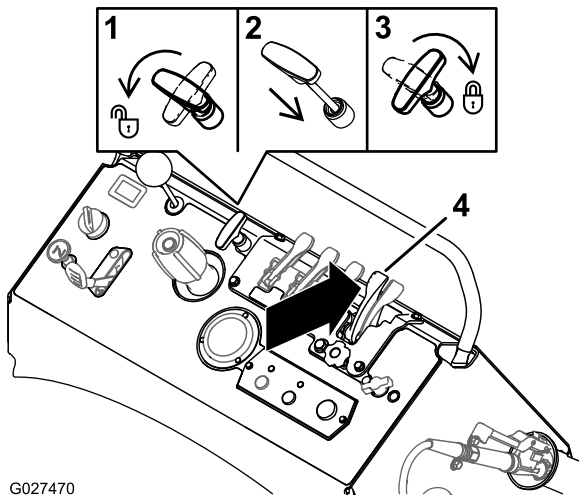

Figure 82
3. Close the impeller gate by pushing the wide-distribution impeller gate lever forward fully (Figure 82).
4. Rotate the spread pattern control handle counterclockwise (1), push the handle down (2), and rotate the spread pattern control handle clockwise(3) refer to Figure 82.